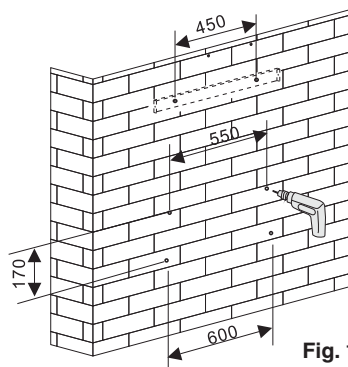

Fig. 1
2. After deciding the installation height of the hood, drill 6 holes according to figure 1. Please note: The top holes are for the flue cover bracket. The bracket determines the height of the flue cover.